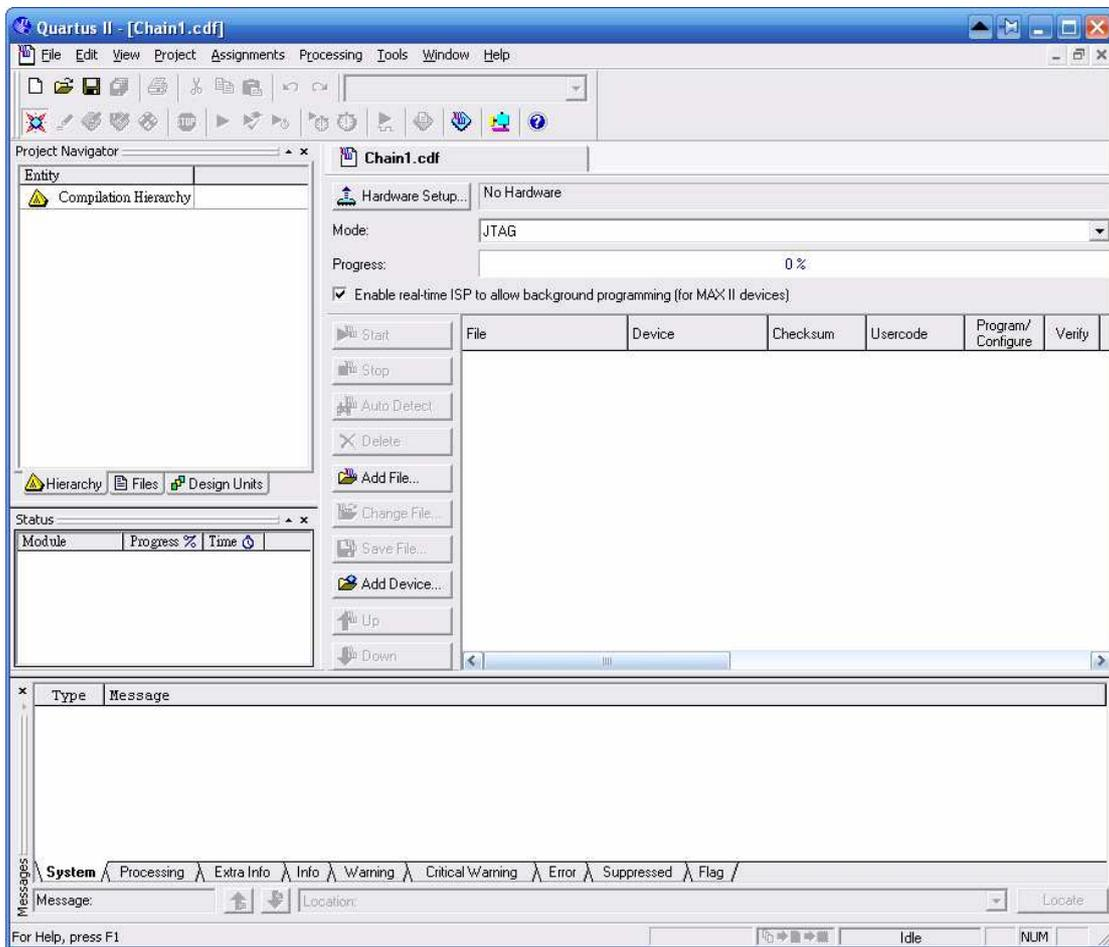

Figure 8. Programmer window
- Step 4.** Open Quartus II software, Choose **Tools > Programmer**. The Programmer window opens. See Figure 8.